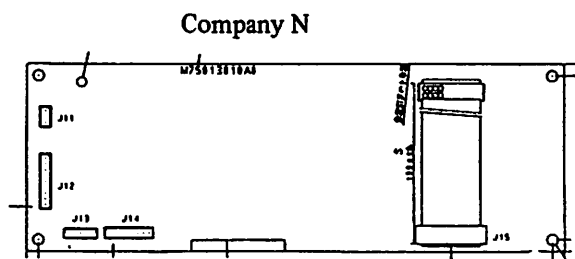

Fig. 5-21
- (1) Loosen the front cover setscrews on the PSC front surface, and open the front cover.
- (2) There are two types of AC servo control circuit board assembly B, depending on the motor, as shown in Fig. 5-21 and 5-22.
- (3) Disconnect all of the connectors. Since the connectors have locks, to remove first unlock, then pull out.